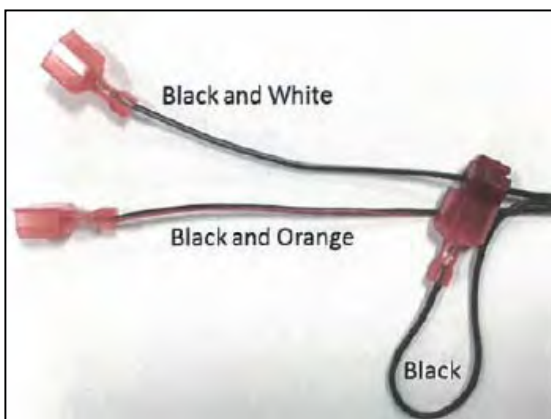

Figure 17
17. T-Tap the mirror main harness power wire (black) to the mirror main harness ignition wire (black/White) of the same mirror harness. See Figure 17.